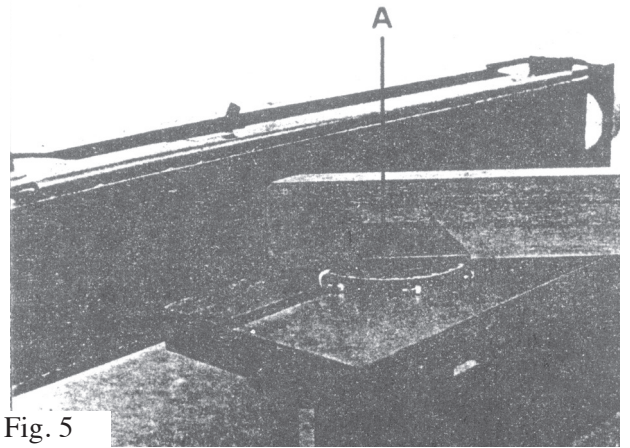

Fig. 5
1. Miter Gauge (A) can be adjusted in  $45^{\circ}$  -  $90^{\circ}$  and tighten firmly with hexagonal handle (B), see Figure. 5
2. Adjust the miter gauge (A) to get the desired angle.